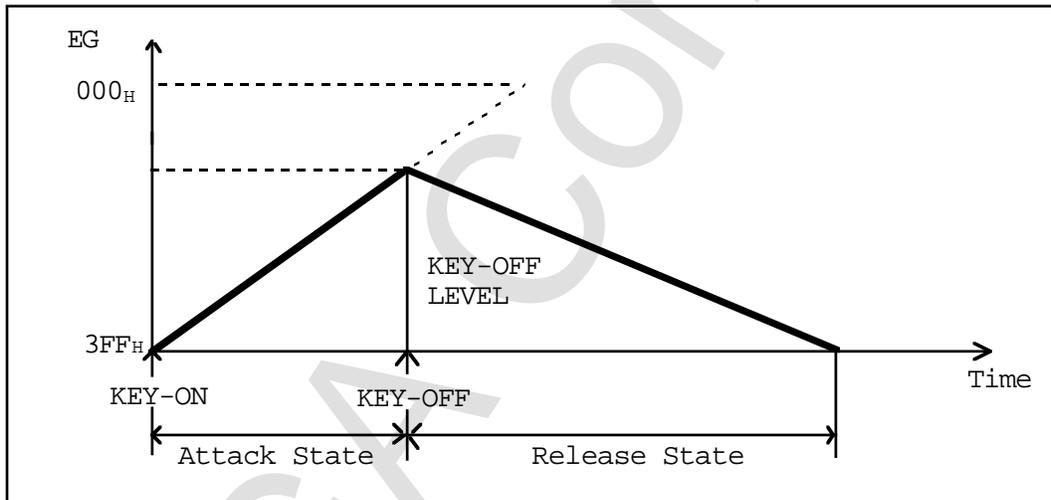

Figure 4.12 KEY_OFF During Attack State Transition
- (a) When KEY_OFF is executed during attack state transition (Figure 4.12).
Designates whether to maintain or change the attack value. As shown in Figure 4.12, when this bit is "1B" the attack value is held at "000H". Also when this bit is "0B", it changes according to the value designated by the AR register. In the hold mode, the time that EG retains "000H" (time until it reaches segment 2) is determined by the "AR" value.